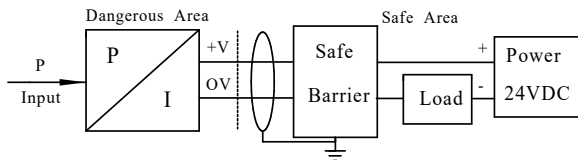

Fig. 5
- Safe barrier and power should be put in safe area; intrinsic safe version transmitter should be put in dangerous area. Please see Fig.5 and Fig.6: